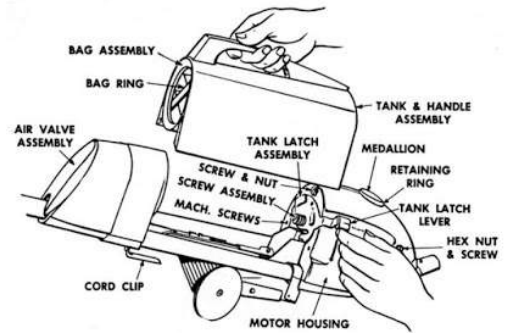

Fig. 1
- a. Raise Lever on lower right side to Release Position and remove tank. *Fig. 1.*
- a. Grasp Bag Ring and pull bag from tank. *Fig. 1.*
- c. Remove Retaining Ring from right and left hand Motor Housing. *Fig. 1.*